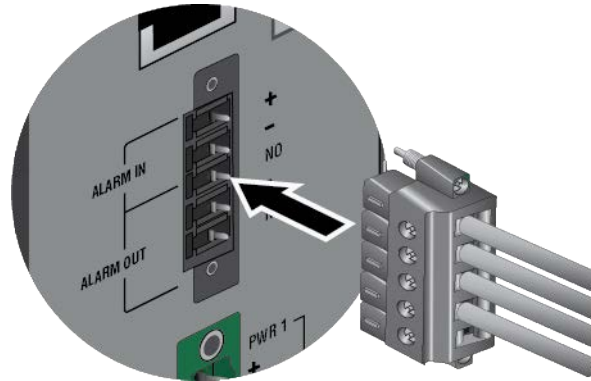

Figure 60. Inserting the ALARM IN / ALARM OUT Plug into the Connector
9. Insert the ALARM IN / ALARM OUT plug into the connector on the switch. Refer to Figure 60.